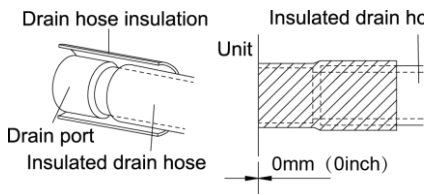

Fig. 4.25
- (9). Be sure to insulate where the drain port and the drain hose is connected (Fig. 4.25).